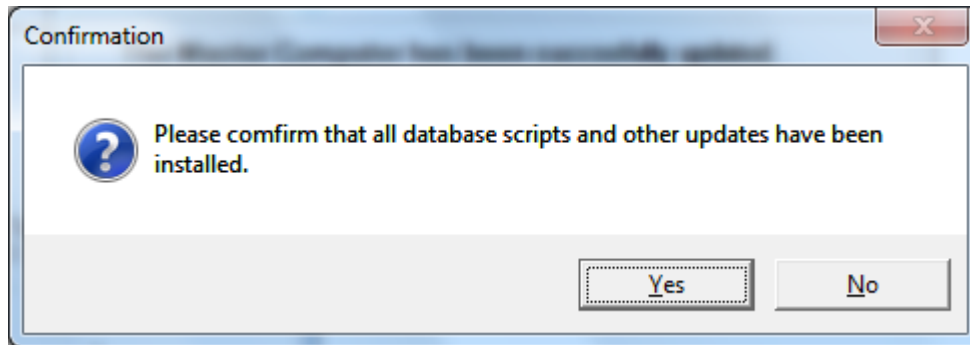

Figure 154. Confirmation Window (Master Computer Only)
4. Click **Yes**. The **Confirmation** window opens, as shown in Figure 154.